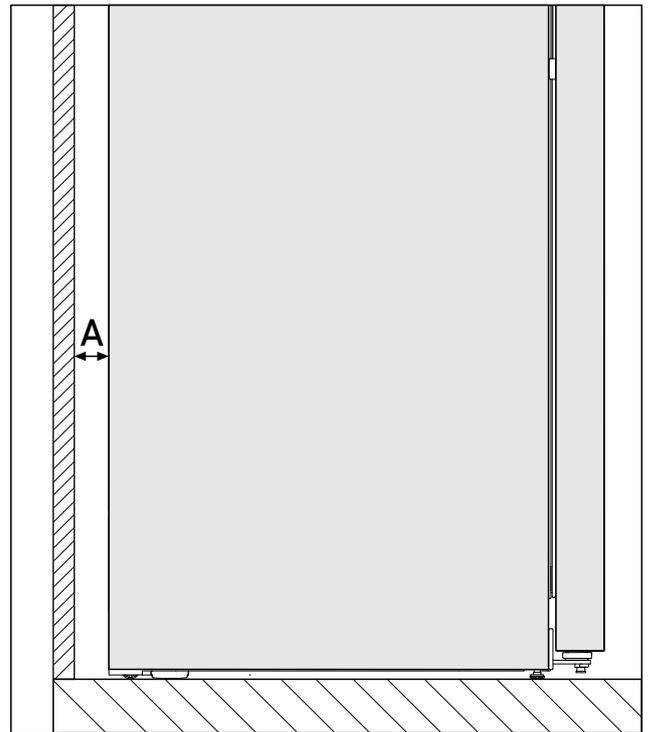

Fig. 2 *
The energy consumption has been determined with a gap of Fig. 2 (A) between the rear of the appliance and the wall. If the wall gap is less than Fig. 2 (A), this does not affect the appliance's operability but the energy consumption does increase slightly at a smaller wall gap.*